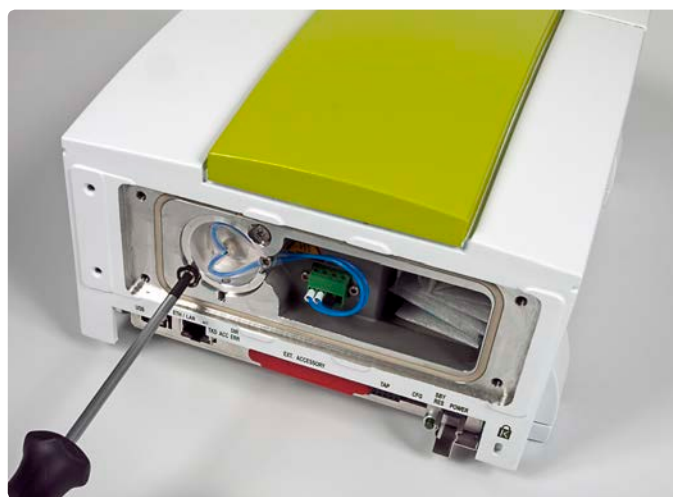

Figure 35. Replacing IR source Torx® screws
8. Secure the source by fastening the two Torx® screws (Figure 35) .